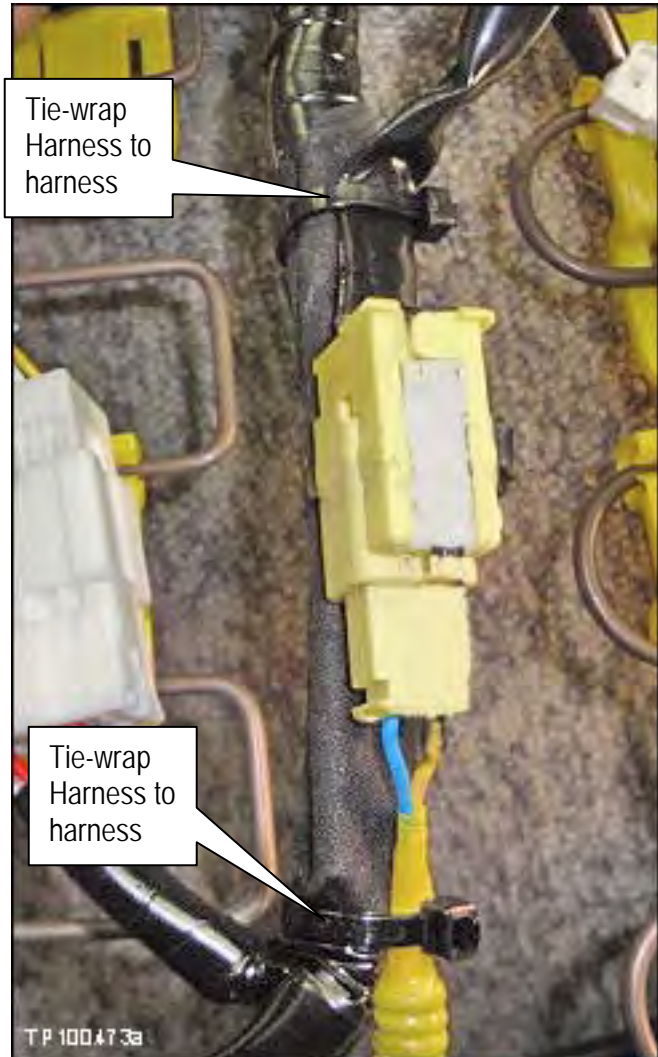

Figure 4c
- Use 2 tie-wraps (P/N 24216-S5800) - harness to harness - as shown in Figure 4c.